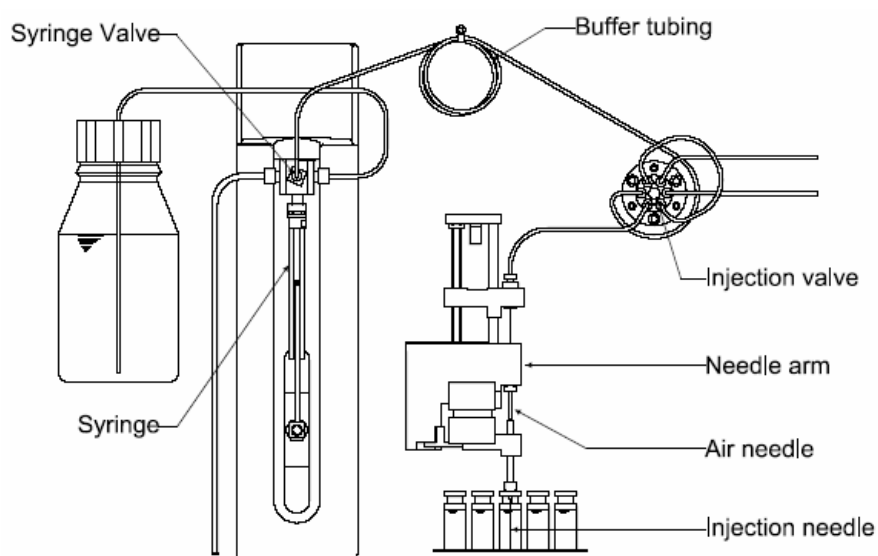

Fig. 6. Wash solvent bottle, syringe, needle and injection valve.
3. Place the holder in the AS 100 as indicated in Fig. 6.